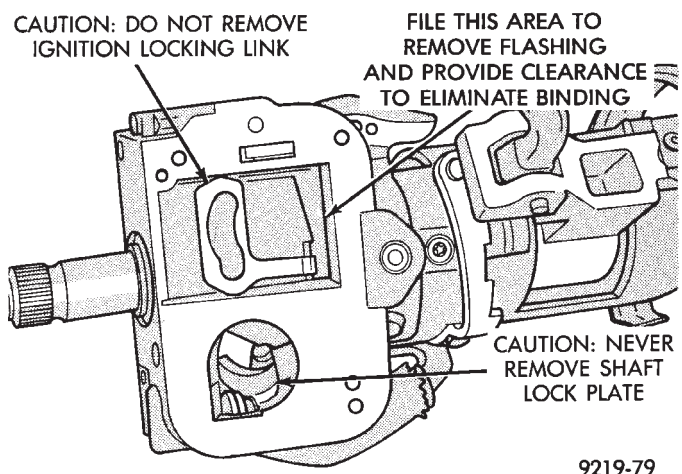

Fig. 3 Steering Column Flash Removal And Non-Serviceable Components
- (1) Look for rough areas or flash in the casting and if found remove with a file (Fig. 3).
- (2) Remove the link and slider.